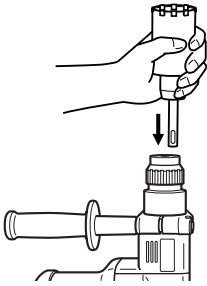

Fig. 16
- (2) Mount the core bit shank to the rotary hammer. (Fig. 16)
- (3) Insert the center pin into the guide plate until it stops.